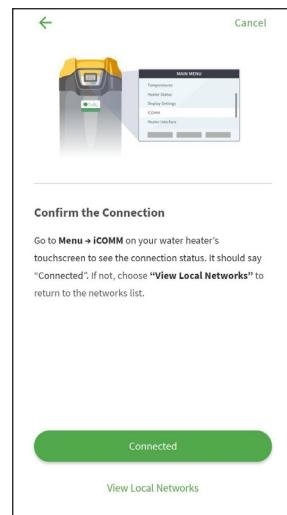

Figure 155 - Confirm Connection
- 4 Select “Connected” on the following screen. Your device should still be connected to the iCOMM network (Figure 155).
**⚠️ HELP:** The screen referenced in Figure 155 may display an inaccurate product image with instructions. If this is the case, follow **Steps 1 - 6** in this section of the guide to successfully connect the water heater to your preferred Wi-Fi network.